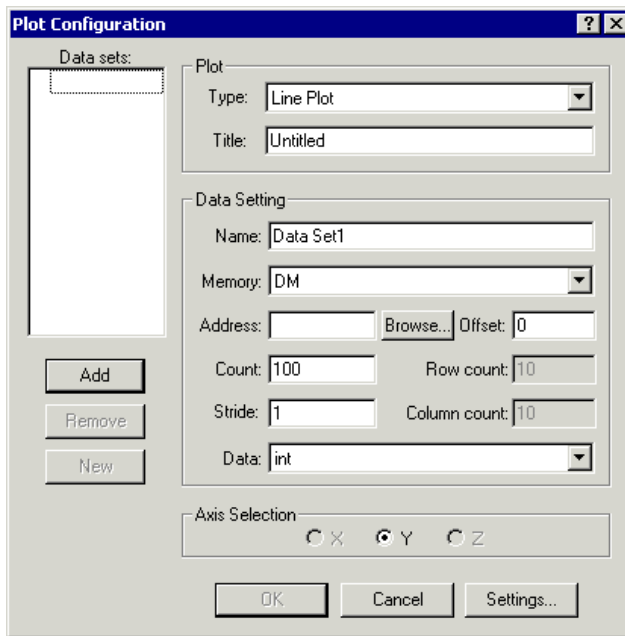

Figure 3-23. Plot Configuration Dialog Box: Specifying Data Sets to Be Plotted
1. From the View menu, choose Debug Windows and Plot. Then choose New to open the Plot Configuration dialog box, shown in Figure 3-23.